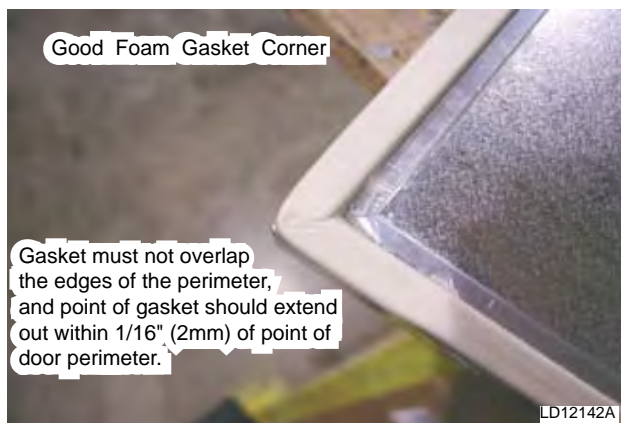

FIG. 5-41 – CORRECT MITERED FOAM GASKET CORNER
24. Repeat steps to install gaskets on additional doors. See Fig. 5-41 & 5-42 for examples of correct and incorrect mitered foam gasket corners.